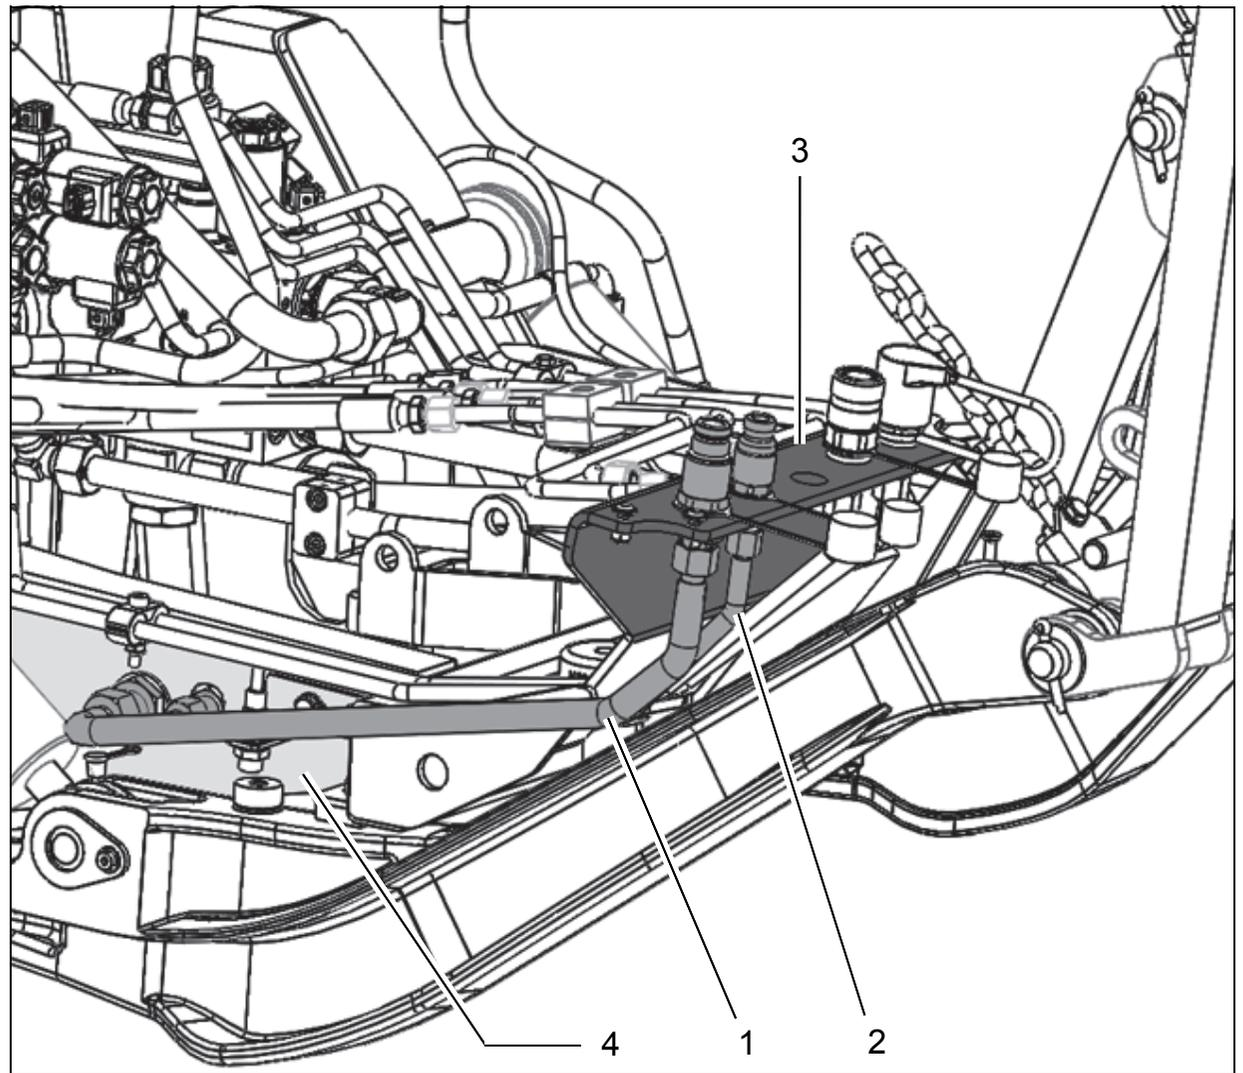

Fig. 5
- Install the supply line (Fig. 5/1) between the screw-on panel (Fig. 5/3) and the right-hand retaining frame (Fig. 5/4).
- Install the pressure sensing line (Fig. 5/2) between the screw-on panel (Fig. 5/3) and the right-hand retaining frame (Fig. 5/4).